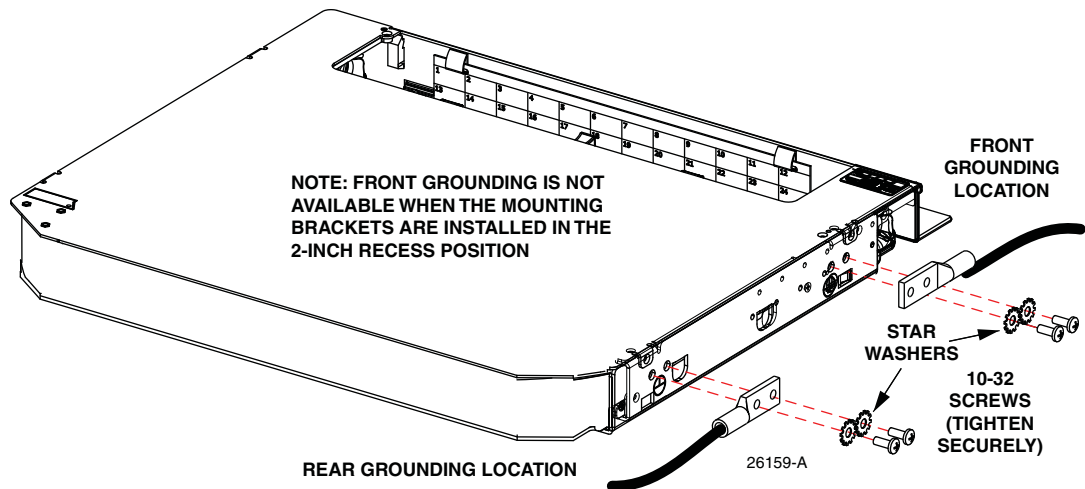

Figure 29. Grounding Rapid Fiber Panel
6. Connect a grounding wire to the panel in either of the two locations shown in Figure 29 using the two #10-32 screws and star washers provided. A two-hole grounding lug (not provided but shown here for reference) is recommended for the connection.